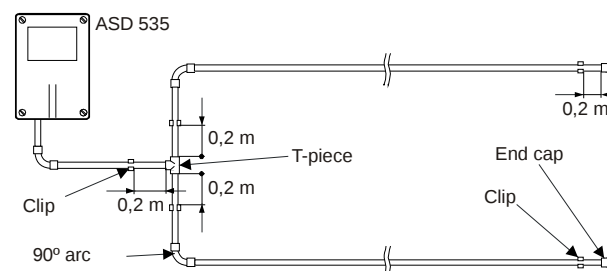

Fig. 24 90° bend, branching point
- Beginning at the branching points of the sampling pipe, a distance of at least 0.2 m must be maintained from the T-piece to the clips (**Fig. 24**).
- For changes of direction in space surveillance installations, it is advisable to use 90° bends rather than 90° angles (**Fig. 24**). See Sec. 4.4.2.